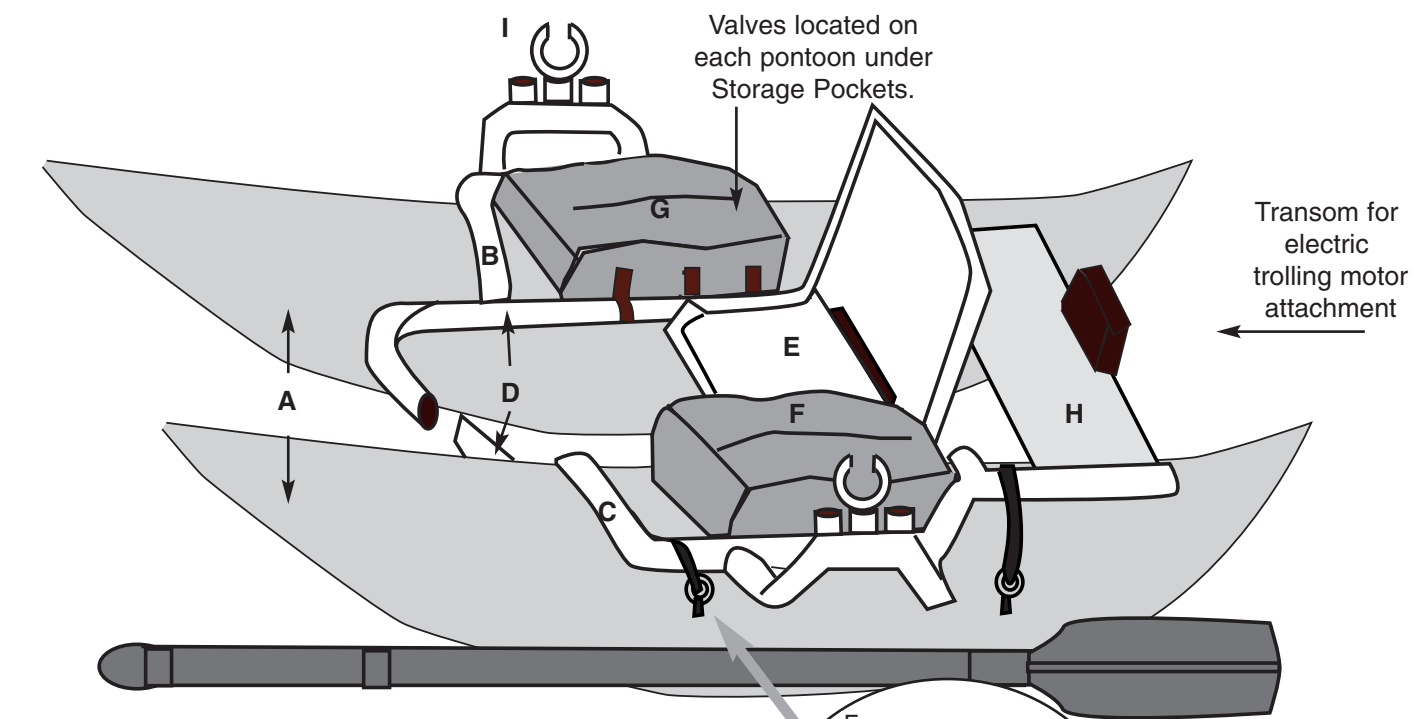

**Figure 4**
2. Assemble Seat Support Member to Left and Right Frame Members using (4) Short Snap Pins (see figure 4).
3. Assemble U-Bar to back of Left and Right Frame Member, using (2) Short Snap Pins (see figure 4).
4. Remove Protective Support Bar and assemble Cargo Deck to back of Left and Right Frame Member using (2) Short Snap Pins (see figure 4)
5. Assemble Foot Bars to front of Left and Right Frame Member (see figure 4).
**HIN IS LOCATED ON SQUARE TUBING OF SEAT SUPPORT FRAME MEMBER AND ON RIGHT MAIN FRAME MEMBER (SEE FIGURE 4)**